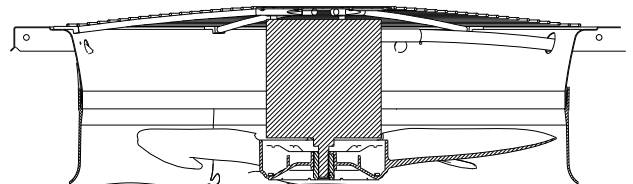

Fig. 35 — Condenser Fan Adjustment
2. Remove condenser-fan assembly (grille, motor, and fan). (See Fig. 35.)